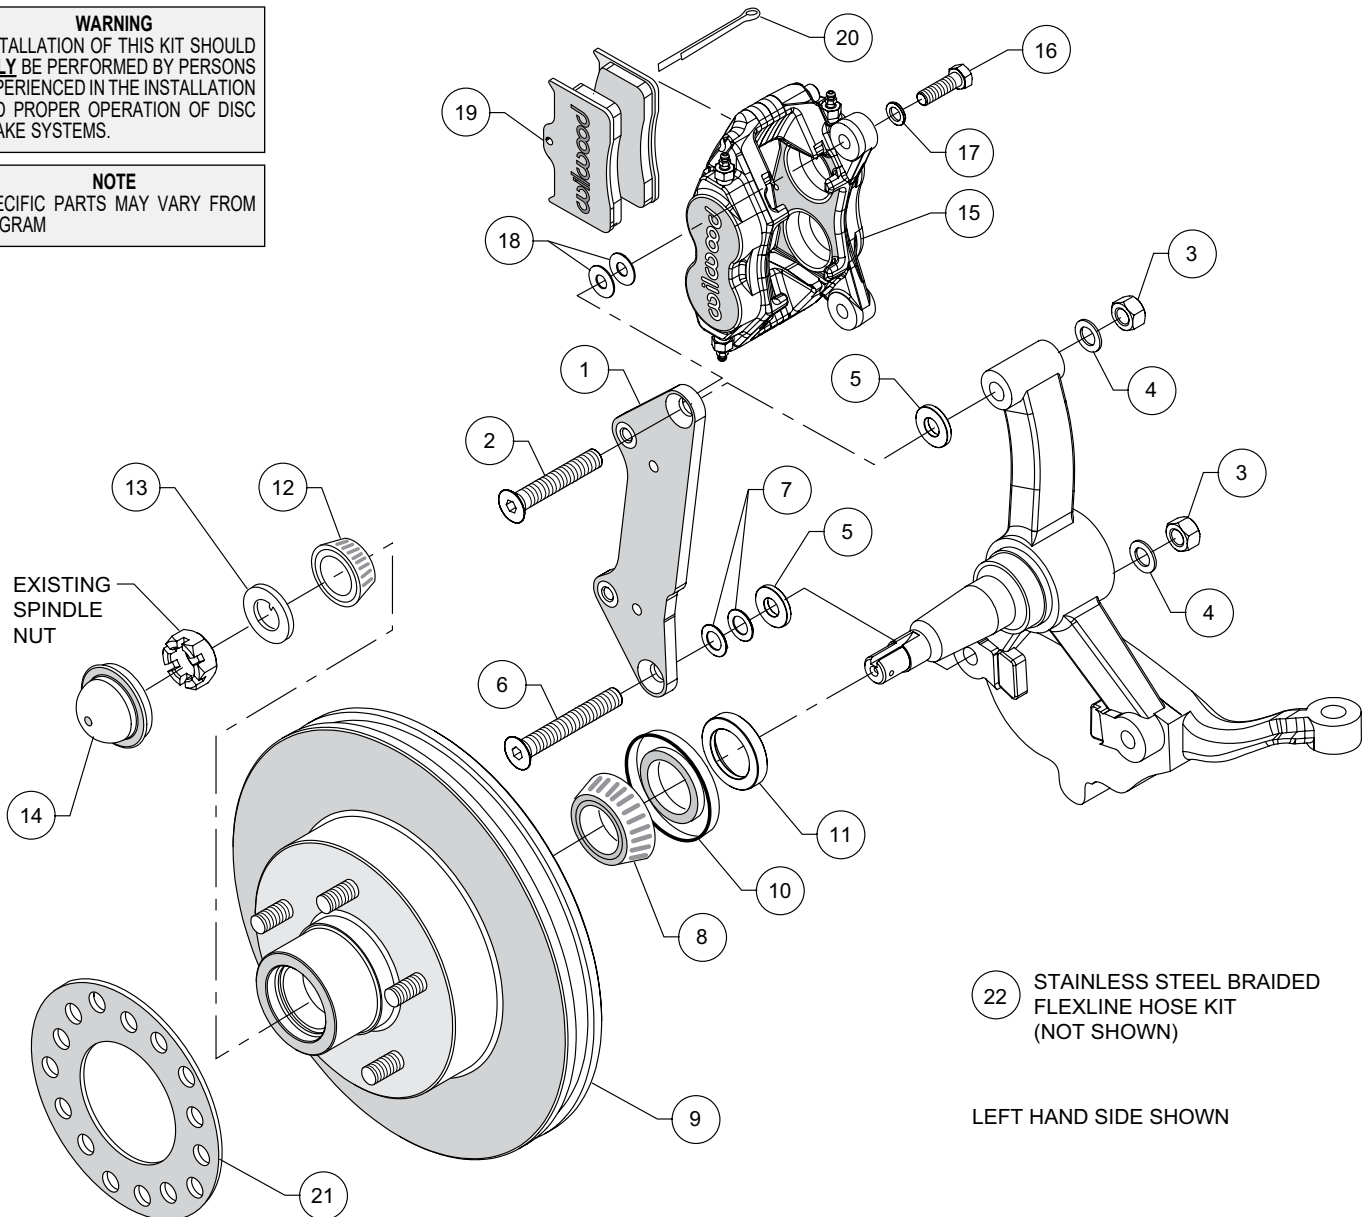
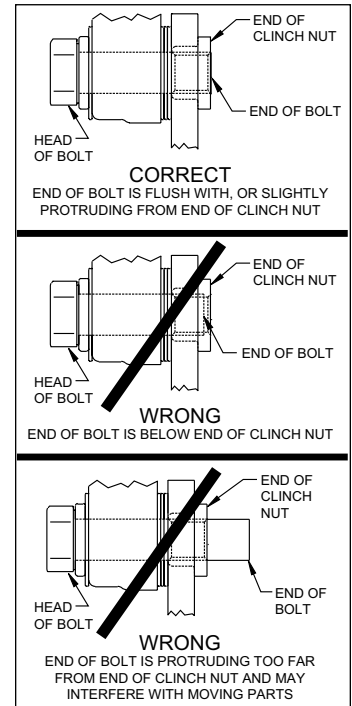

Figure 1. Typical Installation Configuration
Figure 3. Clinch Nut Engagement Diagram
NOTE: Numbers in parenthesis refer to the parts list and Figure 1 on the preceding pages.
CAUTION: All mounting bolts must fully engage clinch nuts. Be sure to check that all bolts are either flush or protruding through flanged side of clinch nut after shimming, Figure 3.
•The caliper bracket (1) should initially be installed with clean, dry threads on the mounting bolts. Orient the bracket as shown in Figure 1 and Photo 1, and install using bolts (2/6), nuts (3) and washers (4). Place a .147" thick spacer (5) positioned between the bracket and spindle on both the upper and lower bolts, as shown in Figure 1. Initially place two .032" thick shims (7) on the lower bolt between the bracket and spacer, Figure 1. Ensure that the flanged heads of the clinch nuts in the bracket are facing outboard, Photo 1. Temporarily tighten the mounting bolts. **NOTE:** The bracket must fit squarely against the mounting points on the spindle. Inspect for interference from casting irregularities, machining ridges, burrs, etc. Later, after the bracket alignment has been checked, the bolts will be secured using red *Loctite*® 271.
•Pack the large inner bearing cone (8) with high temperature disc brake bearing grease (available from your local auto parts store) and install into the backside of the hub (9), Photo 2.
•Install the grease seal (10) by pressing into the backside of the hub (9), flush with the end of the hub.
•Slide the bearing spacer (11) onto the spindle. Ensure the chamfered I.D. faces inward, Photo 3.
•Temporarily install the hub/rotor (9) onto the spindle using outer bearing (12), spindle washer (13), and spindle nut. Check that the caliper mounting bracket (1) is aligned parallel to the rotor, Photo 4. If not, adjust by adding or subtracting shims (7) on the lower bolt between spacer and bracket, Figure 1. Once the bracket alignment is correct, remove bolts one at a time, apply red *Loctite*® 271 to the threads and torque nuts to 77 ft-lb.
•Remove hub/rotor and pack the small outer bearing cone (12) with high temperature disc brake bearing grease and final install into the front side of the hub (9). Slide the hub/rotor onto the spindle. Secure using spindle washer (13), and original spindle nut. Bearing adjustment: Tighten the nut while turning the hub. When there is a slight bind on the bearings, they are seated correctly. Back the nut off about 1/6 to 1/4 of a turn, or sufficiently to allow .001" to .007" end play. **WARNING:** Failure to back off adjusting nut could cause bearing to run hot and be damaged, which could cause the wheel to lock or come off. Install a new cotter pin (not supplied), Photo 5.
•Press the dust cap (14) into the hub (9), Photo 6.
•**NOTE:** Please reference the caution statement at the beginning of the assembly instructions. Mount the caliper (15) onto the caliper mounting bracket (1) using bolts (16) and washers (17), as shown in Figure 1. Initially place two .035" thick shims (18) on each bolt between the caliper and the bracket, Photo 7. Temporarily tighten the mounting bolts and view the rotor (9) through the top opening of the caliper. The rotor should be centered in the caliper, Photo 8. If not, adjust by adding or subtracting shims between the bracket and the caliper. Always use the same amount of shims on each of the two mounting bolts. **NOTE:** The end of each bolt must be flush with or slightly protruding from the head of the clinch nut, as shown in Figure 3. If necessary place spare shims between washer (17) and caliper mounting ear to achieve the proper clinch nut engagement. Once the caliper alignment and clinch nut engagement are correct, remove the bolts one at a time, apply red *Loctite*® 271 to the threads, and torque to 40 ft-lb.
•Install the disc brake pads (19) into the caliper, with the friction material facing the rotor (9), Photo 9. Secure in place using cotter pin (20), Photo 10.
•Install wheel spacer (21), if necessary for wheel clearance, Figure 1 and Photo 11. Temporarily install wheel and torque lug nuts to manufacturer's specification. Ensure that the wheel rotates freely without any interference. Remove wheel for next step.
•**NOTE:** OEM rubber brake hoses generally cannot be adapted to Wilwood calipers. The caliper inlet fitting is a 1/8-27 NPT (use PTFE tape on pipe threads of adapter fitting for proper sealing to caliper). Install Wilwood's stainless steel braided flexline hose kit (22), P/N 220-6471 included with this kit, Photo 12. **Carefully route hoses to prevent contact with moving suspension, brake or wheel components.** **NOTE:** Wilwood hose kits are designed for use in many different vehicle applications and it is the installer's responsibility to properly route and ensure adequate clearance and retention for brake hose components.